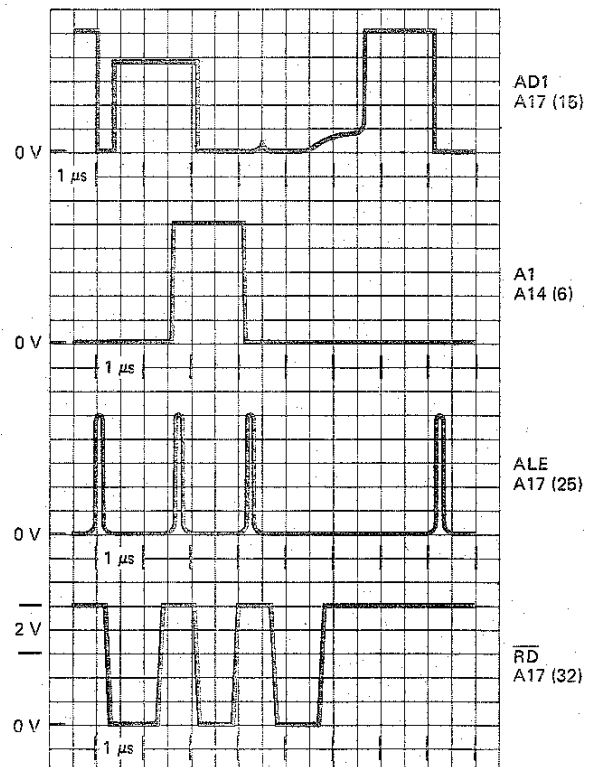

FIGURE 15-1.
9. b. See Figure 15-1.
d. AD1 enters A14(7) and A1 exits A14(6).
g. See Figure 15-1.
10. b. See Figure 15-1.